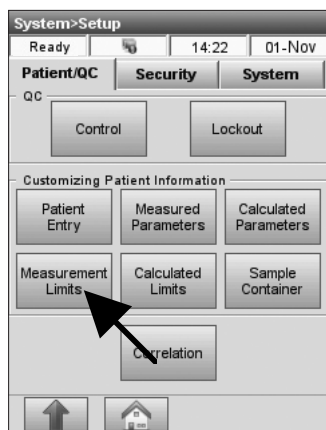

Fig. 3-33 Measurement Limits
2. On the **<Patient/QC>** tab, press **<Measurement Limits>** (Fig. 3-33).